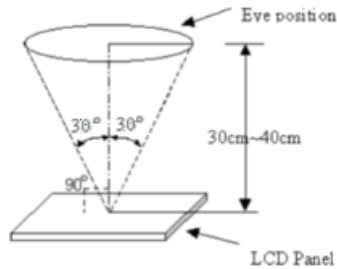

Figure 1
- +/-30 degrees to the surface of display panel in vertical direction. (See Figure 1)